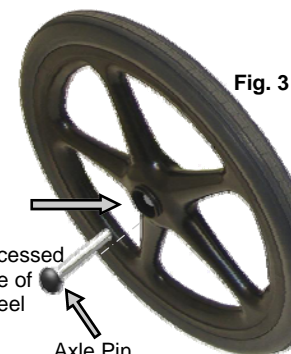

Fig. 3
3. Remove axles from plastic bag. Insert an axle into a wheel from the recessed bearing side (fig. 3), push in button at end of axle to allow the axle to slide through the wheel bearings and insert axle into wheel. **Go to step 4**
Remove axles and axles spacers from plastic bag. Insert an axle into a wheel from the recessed bearing side (fig. 3), push in button at end of axle to allow the axle to slide through the wheel bearings. Assemble 1 spacer onto axle at the back of the wheel after the axle is inserted. Spoke wheels must be used with spacers. **Go to step 4**